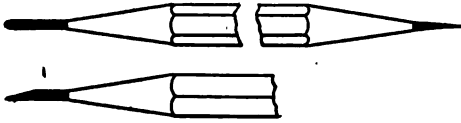

Fig. 7
4. *Pencils and Penciling.*—It is much easier to learn to draw with a pencil, and finished pencil work will give more effective training in neatness than can be gained by inking-in the drawing. For these reasons, the student is advised to make all of the early exercises carefully finished pencil drawings. After one has gained both speed and accuracy with the pencil, the inking-in of the drawing will prove to be mere mechanical work. The pencils used should be ones having hard leads, and the ordinary writing pencil, being too soft, should never be used. The two grades of lead which are most commonly used by draughtsmen are the HHHH and the HHHHHH. In Fig. 7 is shown the proper manner of sharpening
the pencil leads. For ordinary line work an excellent point is made by cutting the lead clear across at an angle of about 30 degrees. As the outer skin of the pencil lead is much tougher than the center of the lead, such a point wears well. Also, it is a very quick way of sharpening the lead, since all that need be done to obtain such a point is to rub the lead upon a file, a piece of sand-paper or emery cloth. Generally the draughtsman will have a small piece of sand-paper or emery cloth fastened to a block of wood and will sharpen his pencils on this. The second point shown in Fig. 7 is an ordinary needle point, and this type of point is best for use in dimensioning drawings and for laying off distances. It is not only convenient but also good practice to have both ends of the pencil sharpened, one end having the chisel point and the other a needle point.